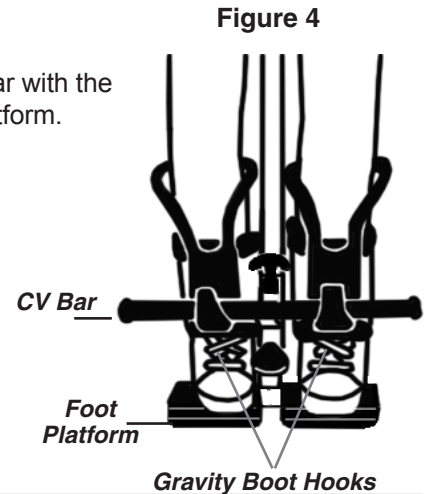

Figure 4
- Slide the hook along the CV Bar until the foot is able to rest flat on the Foot Platform. (See Figure 4)